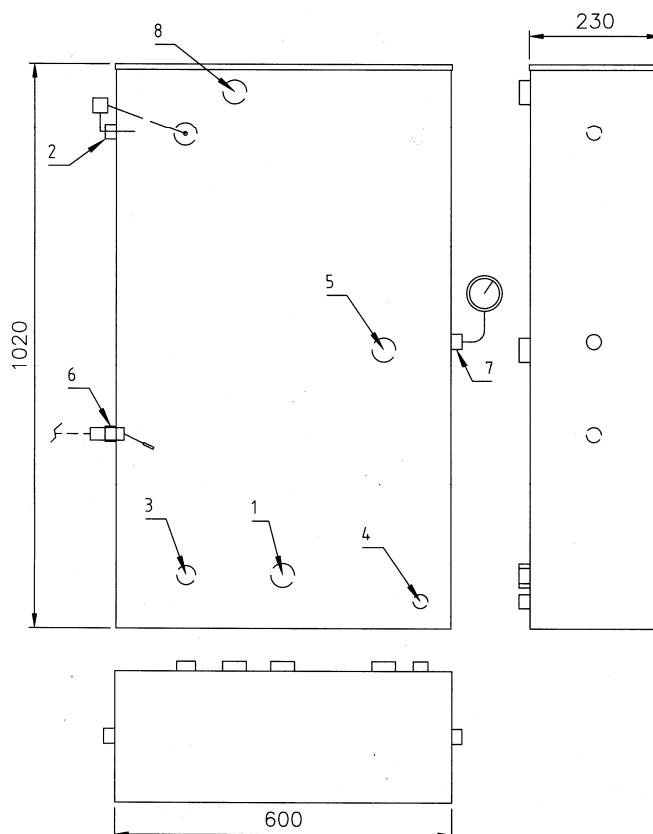

Fig. 10
3.1.2 VASO RACCOLTA CONDENZA (Fig. 10)